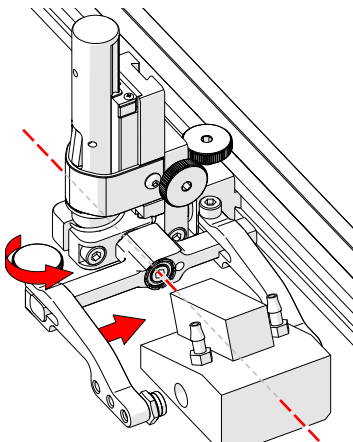

Fig. 130 - Adjust outer arm
5. Loosen the probe holder arm adjustment knob (Fig. 130) and slide the probe holder arm along the yoke pinching the wedge in place.